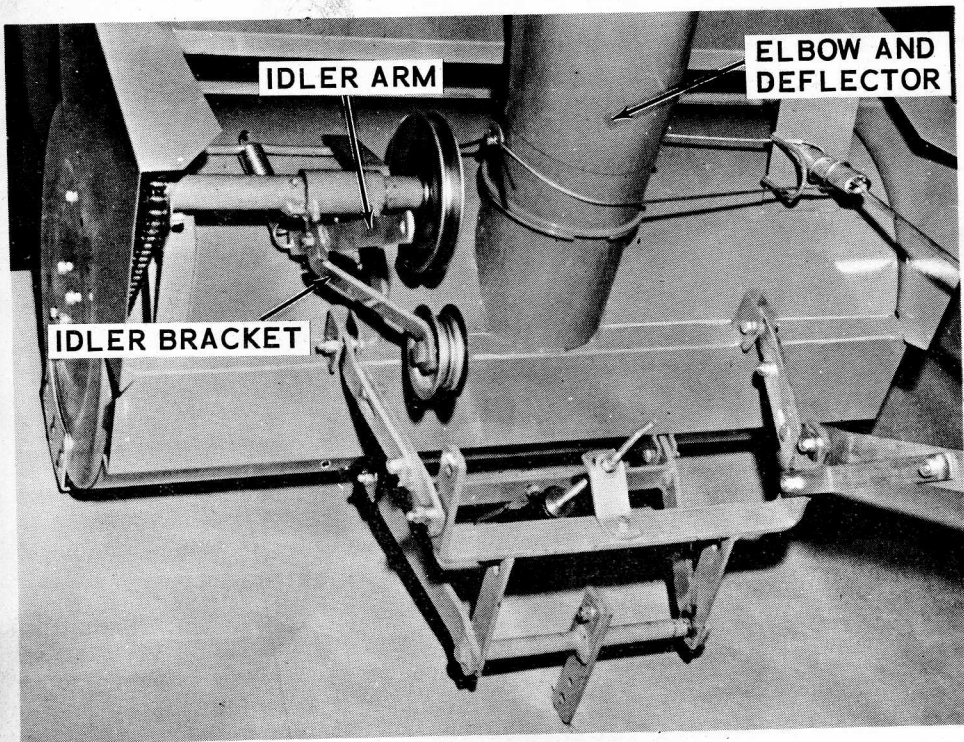

Figure 18
8. Secure the idler arm (Figure 18) to idler bracket with the 5/16" x 3/4" cap screw and lock nut. Be sure the square guide on the idler arm is resting evenly on the idler bracket before tightening the lock nut.